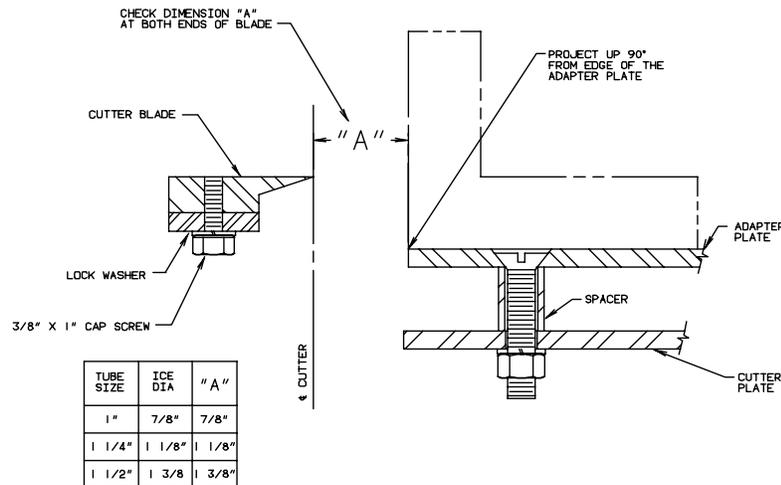

Figure 9-6
- Refer to FIGURE 9-6, adjust each blade to dimension "A" and lock the blade in position by tightening the 3/8" cap screws. Note: Use a 90° square (as illustrated) to obtain the proper blade clearance required for satisfactory ice discharge. Dimension "A" is critical and should be measured at both ends of the blade. Note: 3/8" x 1" cap screw must be flush with cutter blade.